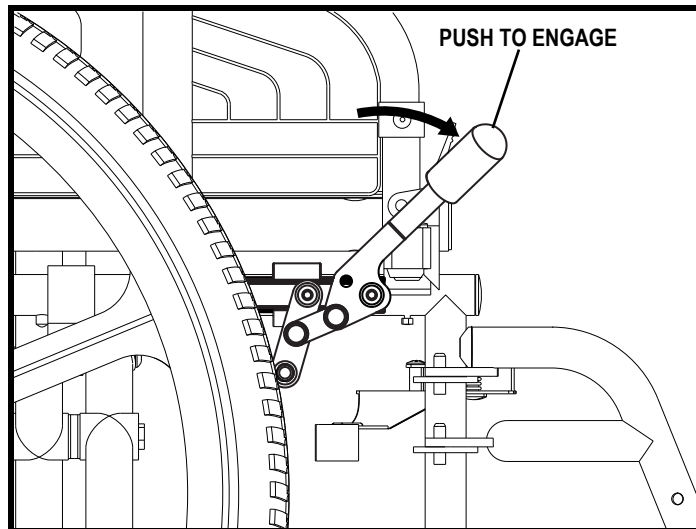

Figure 6. Right Manual Push-to-Lock Wheel Lock
1. Engage both manual wheel locks. See figure 6 or 7.